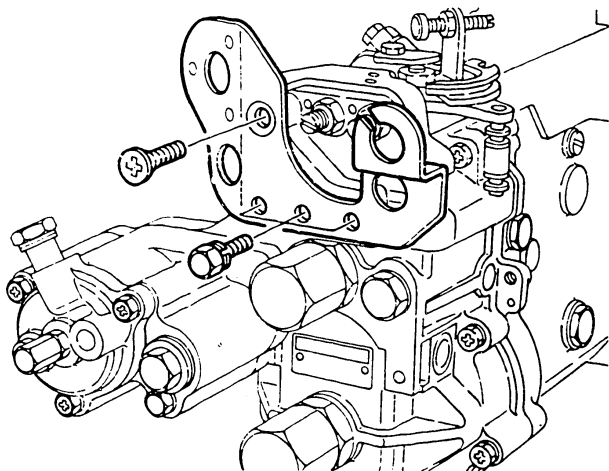

Fig. 62 Removing the stays
9. Remove the stays. (Fig. 62)